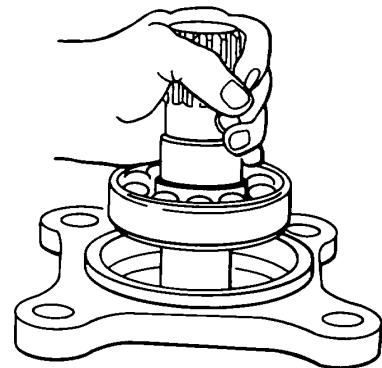

Figure 206.
14 Remove motor shaft (1) and assembled parts ((38), (58), (49) and inner race of (44)), by pulling straight up from mounting flange as shown in Fig 206.
15. Inspect ball bearing (38) for galling, roughness or cage cracks. If damaged, remove retaining rings (58) using truarc pliers and press ball bearing (38) from shaft (1).
16. Inspect inner race of roller bearing (44) for galling or roughness. If no damage is apparent and no damage was observed when the outer race was inspected, do not remove inner race from shaft. If damage was observed on either the inner or outer race, both must be replaced. Remove retaining ring (49) and slide inner race of bearing (44) from shaft (1).